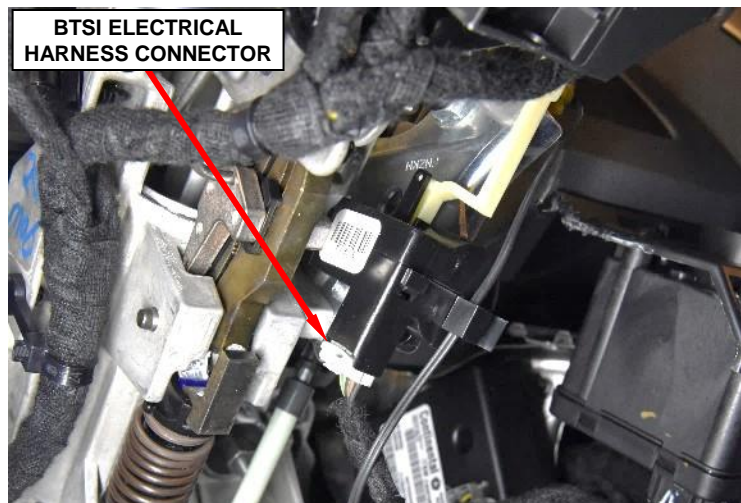

Figure 11 – BTSI Electrical Harness
17. Disconnect the BTSI electrical harness connector (Figure 11).
32. Connect the BTSI electrical harness connector (Figure 11).